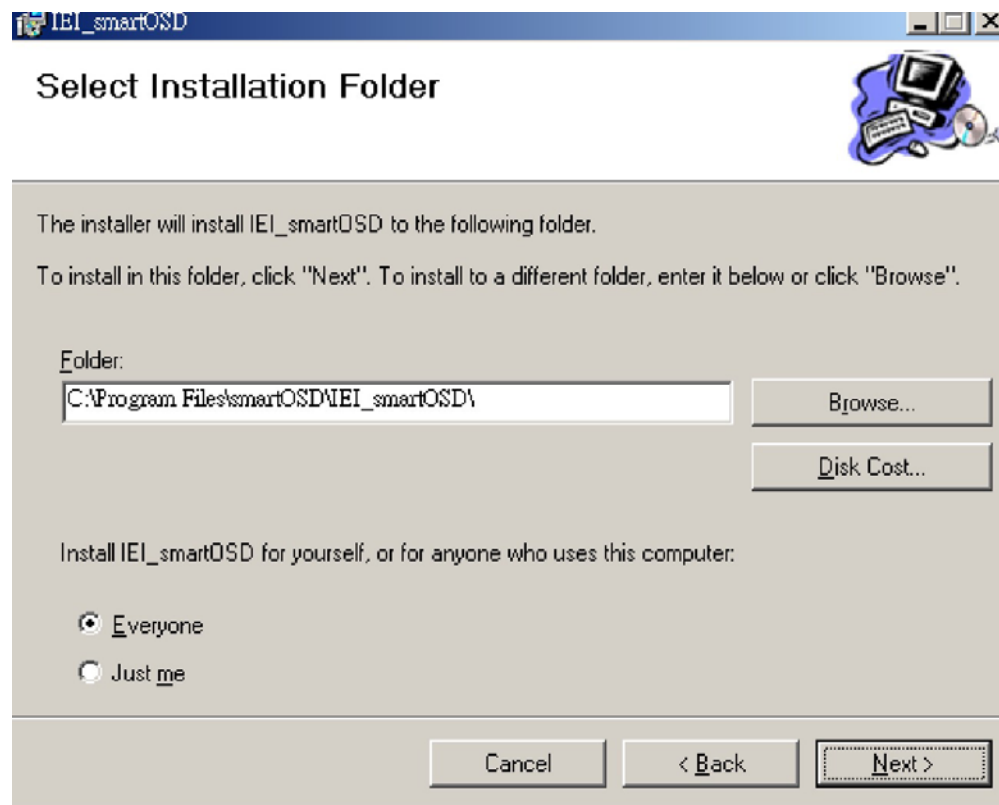

Figure 6-3: smartOSD Folder Select Screen
Step 5: The Folder Select screen in Figure 6-3 appears.
Step 6: Select the installation folder in Figure 6-3 shown above.